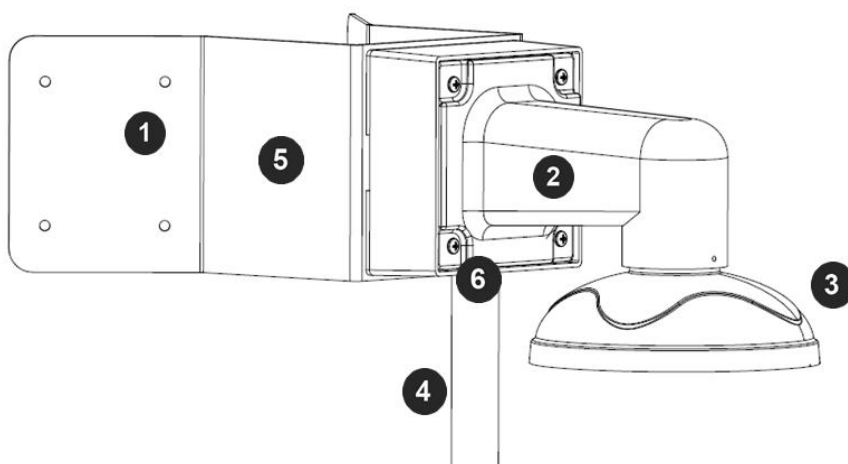

Figure 2: Attach corner mount adapter to exterior corner wall
- 6. Attach the Wall Mount Adapter (AV-WMJB) to the Corner Mount Adapter (AV-CRMA) as shown in Figure 2.